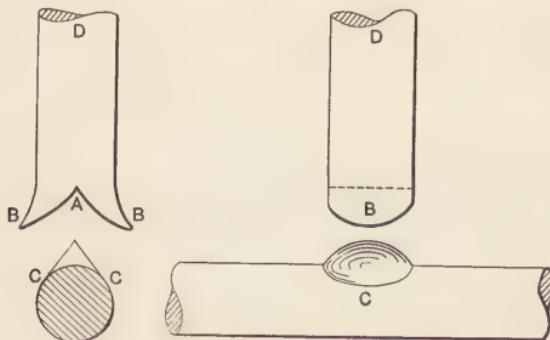

Fig. 50. Cleft Weld.
**Cleft Weld.**—In Fig. 50 is an end and a side view of a cleft or T-weld made with round stock. It is important to make it as strong as possible at the center *A*, in order to make a good weld, so we first stick lips *BB* to the lower bar at points *CC*. One must strike a few heavy, rapid blows on top of part *D*, to drive out the slag. If slag is not removed we cannot get a good weld of any kind. Bulge *C* is made by using the ball pene of the hammer, if the piece to be welded is small. If it is a large piece a ball pene top tool is used and the metal worked out from the bar gradually.